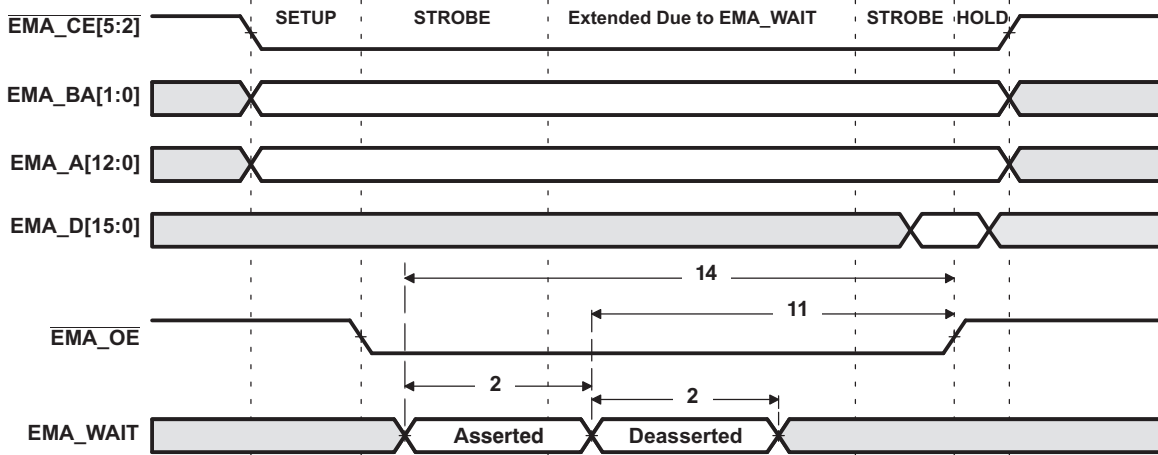
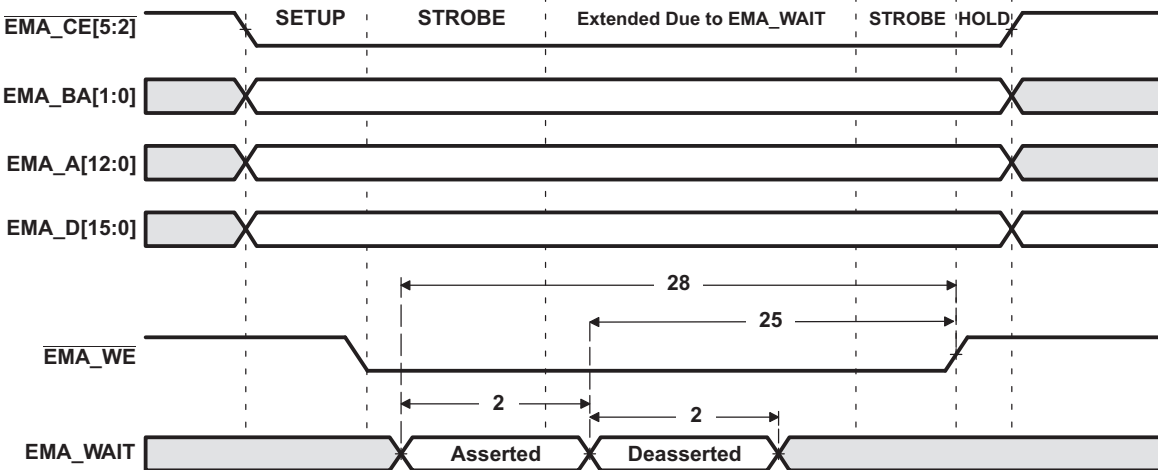

Figure 6-16. EMA\_WAIT Read Timing Requirements
Figure 6-17. EMA\_WAIT Write Timing Requirements
- (1) E = EMA\_CLK period or in ns. EMA\_CLK is selected either as SYSCLK3 or the PLL output clock divided by 4.5. As an example, when SYSCLK3 is selected and set to 100MHz, E=10ns.
- (2) Setup before end of STROBE phase (if no extended wait states are inserted) by which EM\_WAIT must be asserted to add extended wait states. Figure 6-16 and Figure 6-17 describe EMIF transactions that include extended wait states inserted during the STROBE phase. However, cycles inserted as part of this extended wait period should not be counted; the 4E requirement is to the start of where the HOLD phase would begin if there were no extended wait cycles.